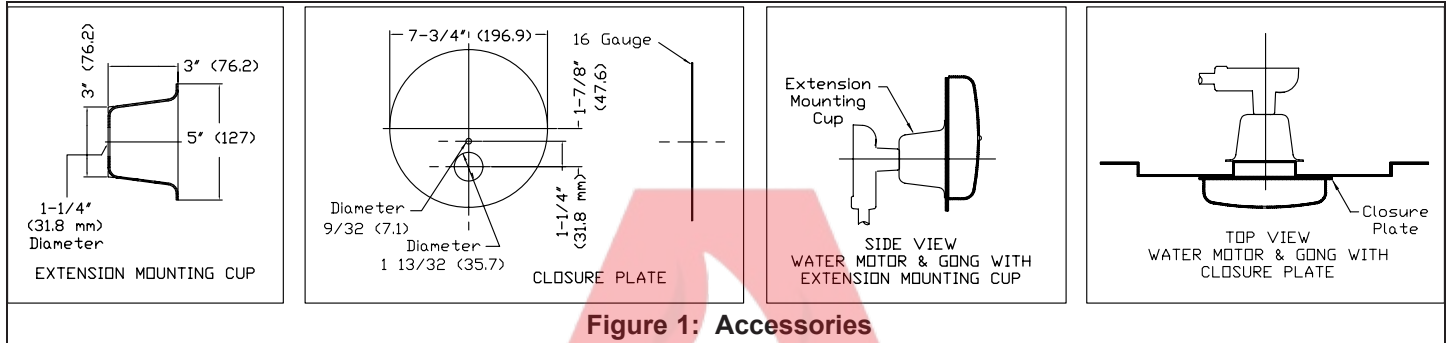
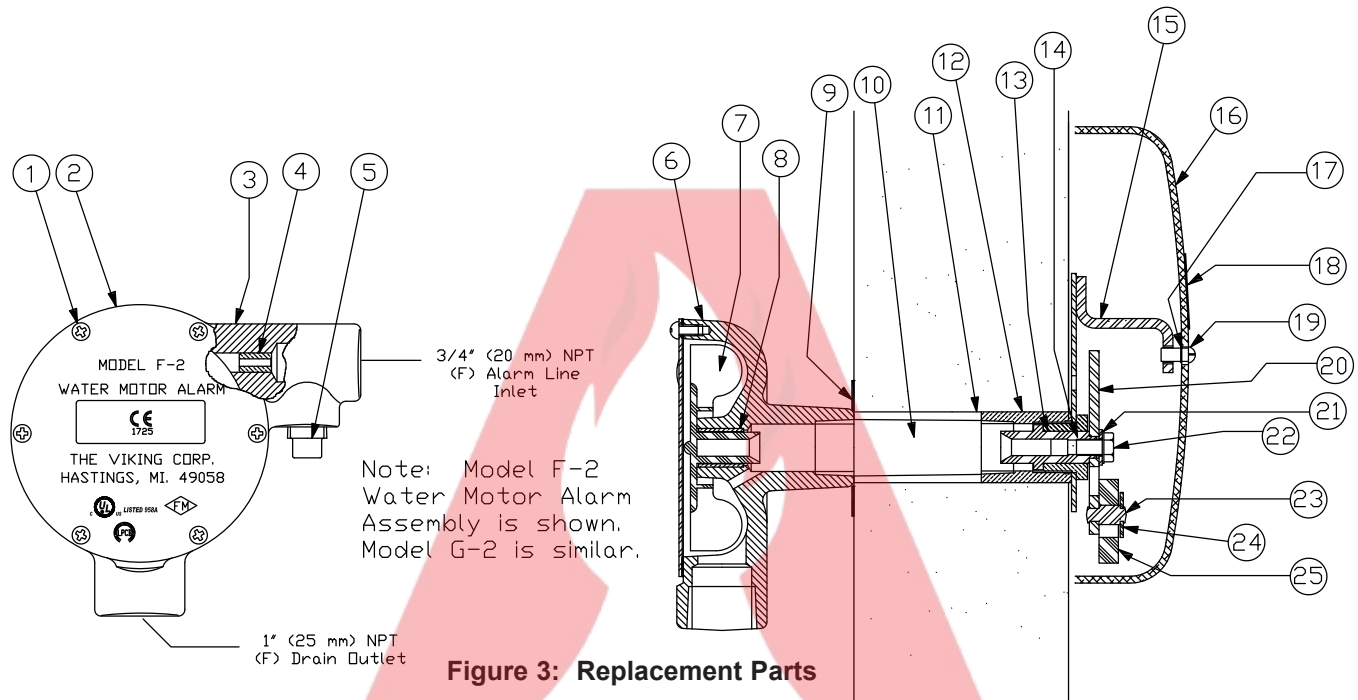

Figure 1: Accessories
Figure 3: Replacement Parts
Material Standards (See Figure 3)
- K. Attach the water motor assembly by threading the body (3) onto the free threaded end of the spacer pipe. The chamfered ends of the drive shaft allow it to slide into position as the water motor body is threaded onto the spacer pipe. When the assembly is properly tightened, the water motor should be positioned with the 1" (25 mm) NPT drain outlet facing downward and the 3/4" (20 mm) NPT alarm line inlet horizontal. See Figures 1 and 3.
- L. Attach the gong, the flat washer, and the gong label (16, 17, and 18) to the gong support installed on the exterior surface of the wall, with the 5/16-18 x 12" (13 mm) screw (19). Note: The flat washer must be installed between the gong and the gong support (17).
5. OPERATION (See Figure 3)
A. Water Motor Disassembly (See Figure 3)
2. Remove pipe plug (5).
3. Remove all round head machine screws (1) from the water motor cover.
4. Separate the cover (2) and the gasket (6) from the housing (3).
5. Remove the impeller (7).
6. Inspect and, if necessary, carefully clean the nozzle (4) with a wire or pipe cleaner brush.